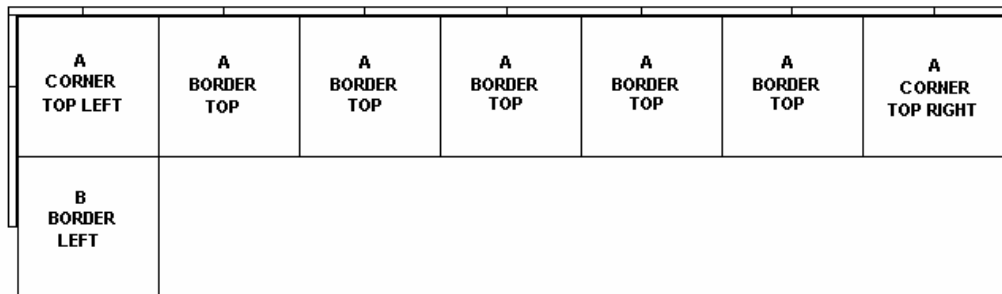

Figure 13
14. Next take another transition and lock the two panels "A CORNER" and "B BORDER" together (Figure 13)